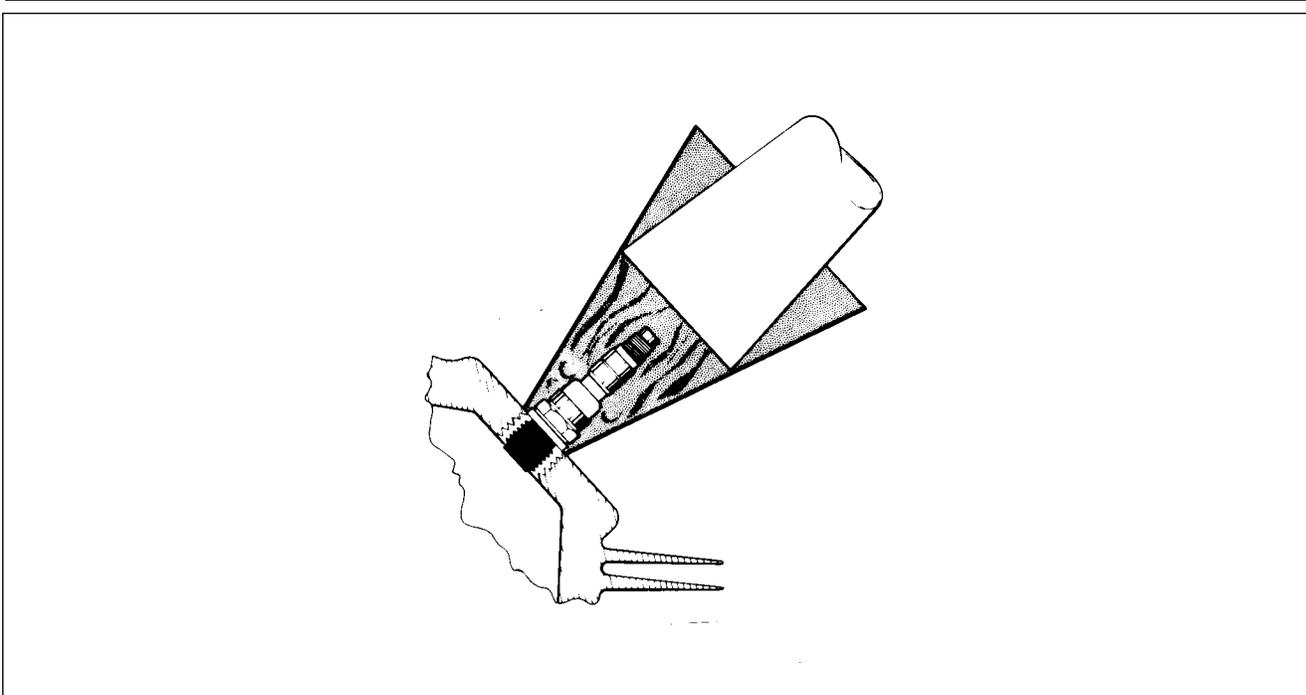

Figure 74-44. Removing Spark Plug Frozen to Bushing
4. Removal of seized spark plugs in the cylinder may be accomplished by application of liquid carbon dioxide by a Conical metal funnel adapter with a hole at the apex just large enough to accommodate the funnel of a CO2 bottle. (Refer to Figure 74-44.) When a seized spark plug cannot be removed by normal means, the funnel adapter is placed over and around the spark plug. Place the funnel of the CO2 bottle inside the funnel adapter and release the carbon dioxide to chill and contract the spark plug. Break the spark plug loose with a wrench. A warm cylinder head at the time the carbon dioxide is applied will aid in the removal of an excessively seized plug.